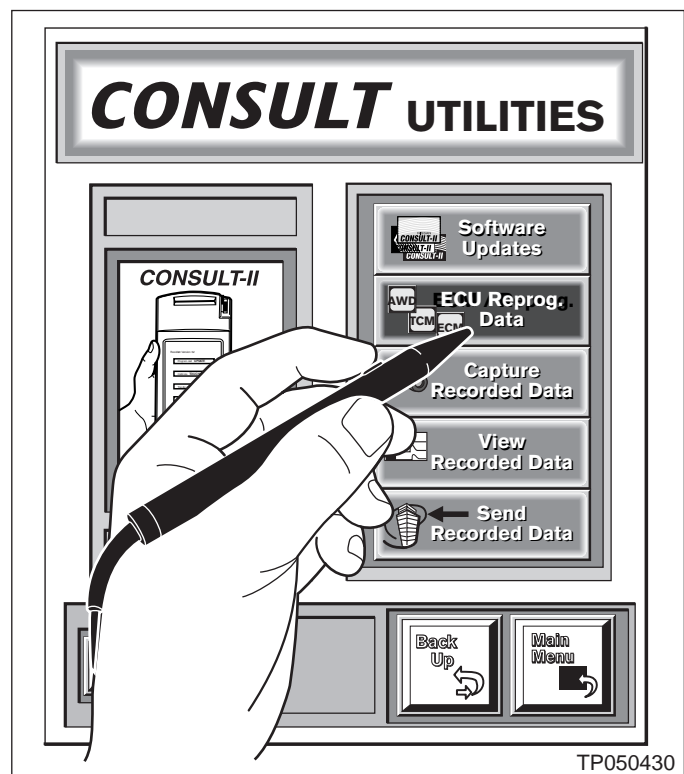

Figure 4
6. From the "**CONSULT UTILITIES**" screen, select "**ECU Reprog. Data**" (see Figure 4).